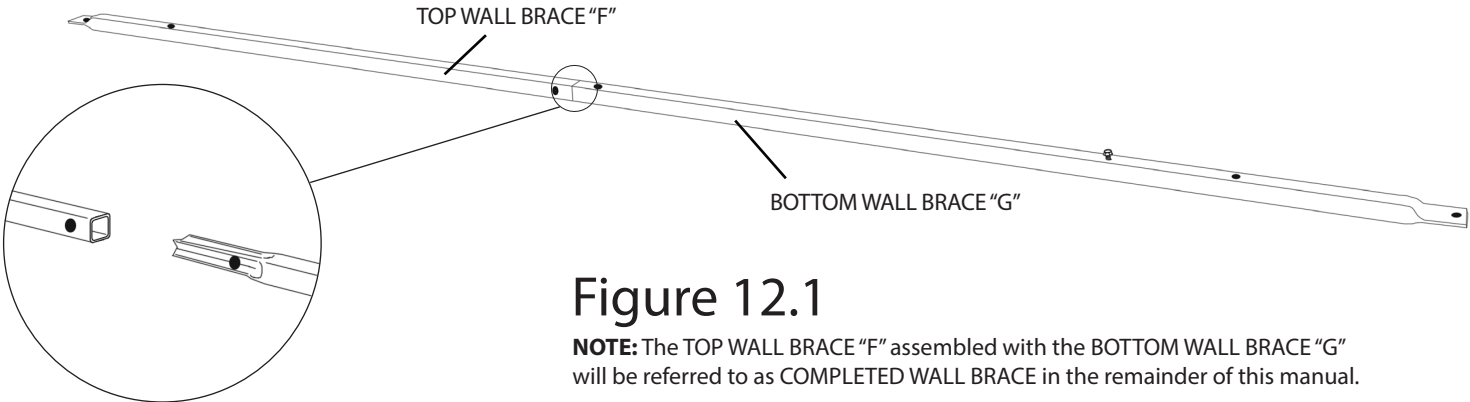

Figure 12.1
STEP 4: Locate the (8) BOTTOM WALL BRACE "G" and the (8) TOP WALL BRACE "F". Slide the male end of the BOTTOM WALL BRACE "G" into the corresponding female end of the TOP WALL BRACE "F". Fasten the two parts together using a 1-1/4" BOLT & NUT, as illustrated in Figure 12.1.